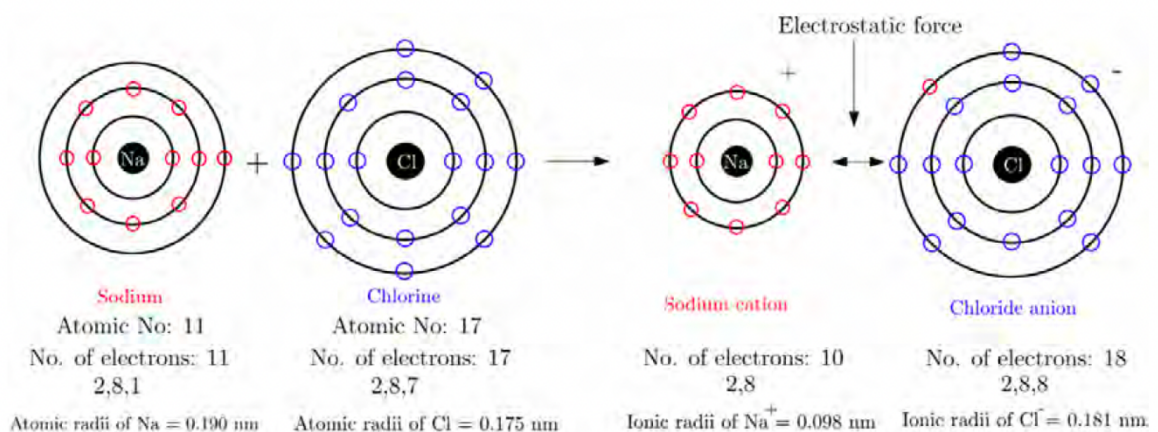

Fig. 1.14: Ionic bonding between sodium and chlorine atoms
- **Fig. 1.14: Ionic Bonding in NaCl**